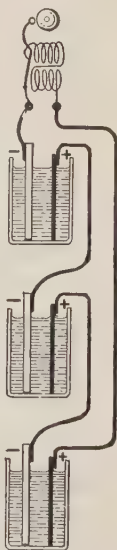

FIGURE 459. —
**308. Grouping of Cells.** — The voltage of a single cell is too small for most purposes, so in practice cells are connected to form *batteries*. The use to which the battery is to be put determines whether the cells are to be connected in series, or in parallel. The *series* connection is the more common, because this gives a greater voltage to send current through the external resistance. In the series connection (Figure 459), the positive of one cell is connected to the negative of the next, and so on through the battery. The voltage at the